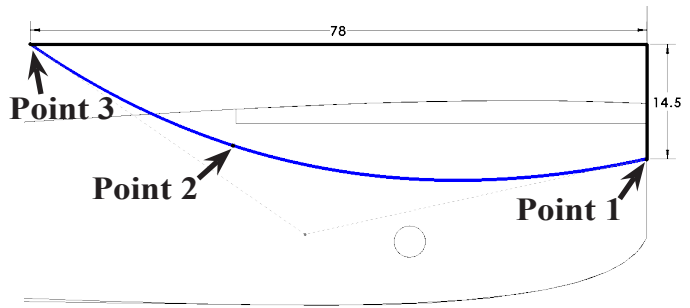

Fig. 35
Step 11. Draw a 3 point spline between the endpoints of the line, **Fig. 35**. Place the 2nd spline point below the front of the cartridge hole. Press Escape to end the spline.